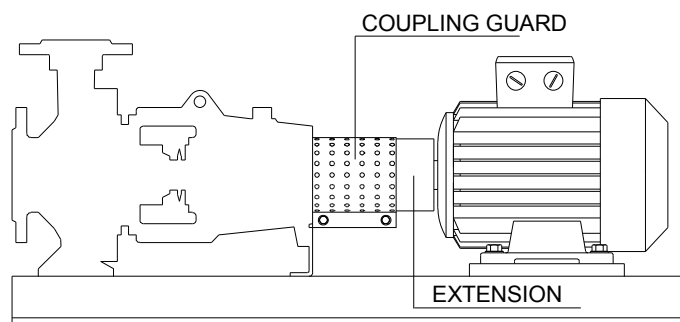

Fig. 17 - CHECKING ALIGNMENT ON BASE MOUNTED PUMP DESIGN
- 7 - Remove the coupling guard and its extension (if there is one) attached to the pump, by removing the two locking screws (see fig. 17 and 18).